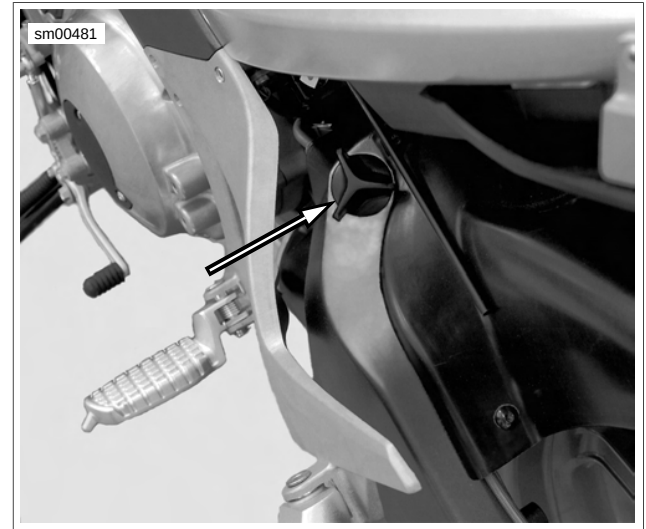

Figure 1-4. Dipstick Location (Ulysses Shown)
2. See Figure 1-4. Unscrew and remove dipstick from oil tank/swingarm filler hole. Wipe dipstick clean.